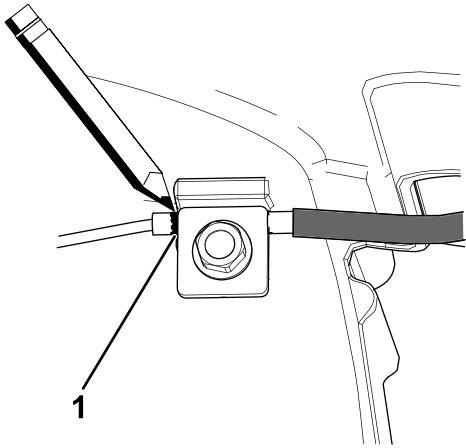
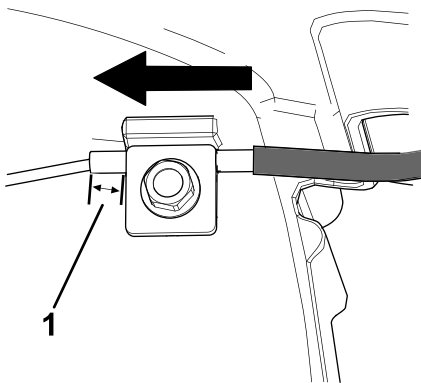

Figure 36
Figure 37
7. Mark the brake cable (Figure 36), then adjust the jacket until there is approximately 8 mm (5/16 inch) of slack (Figure 37).